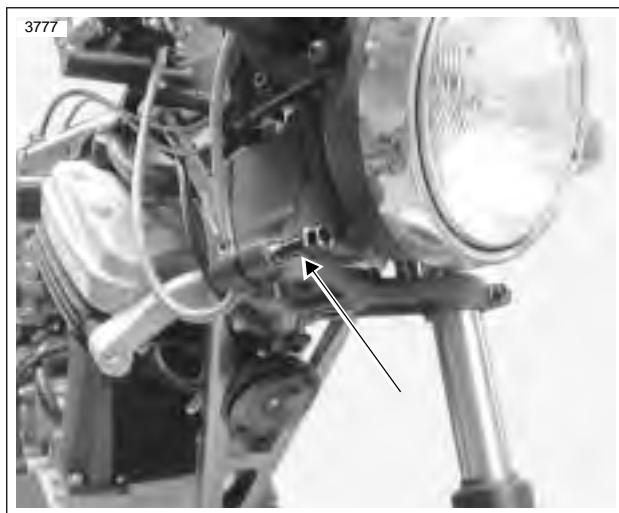

Figure 2-96. Location of Anti-Seize on Triple Clamp Pinch Screws
2. See Figure 2-96. Apply Loctite Anti-Seize to the threads of triple clamp pinch screws.